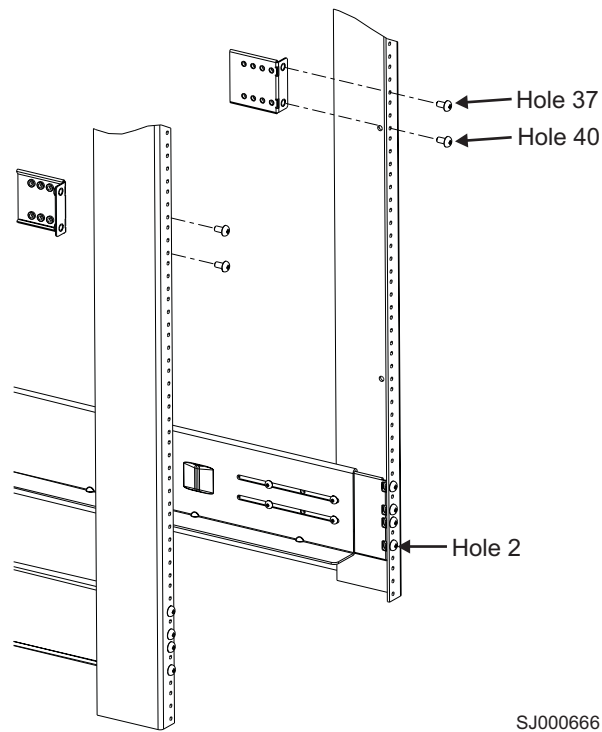

Figure 26. Attaching the L-shaped upper mount brackets to the rails
- Attach the two L-shaped upper mount brackets (items 3b and 4b) to the cabinet rails. See Figure 26 for orientation. Use two of the 1/4–20 x 1/2 in. Phillips panhead screws with lock washers per bracket. Tighten the screws.